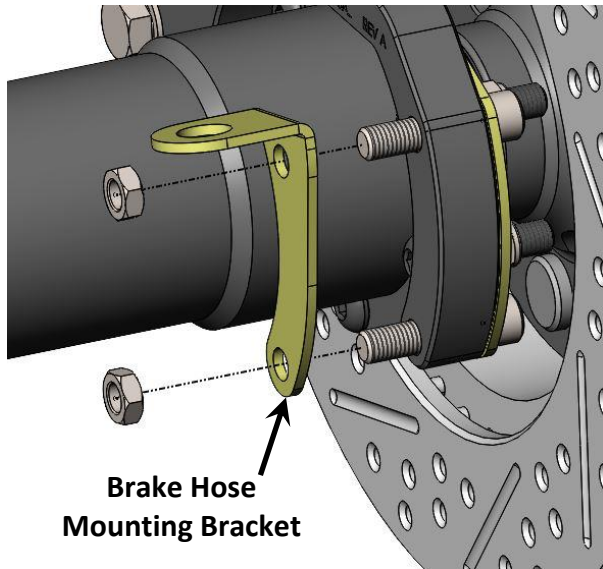
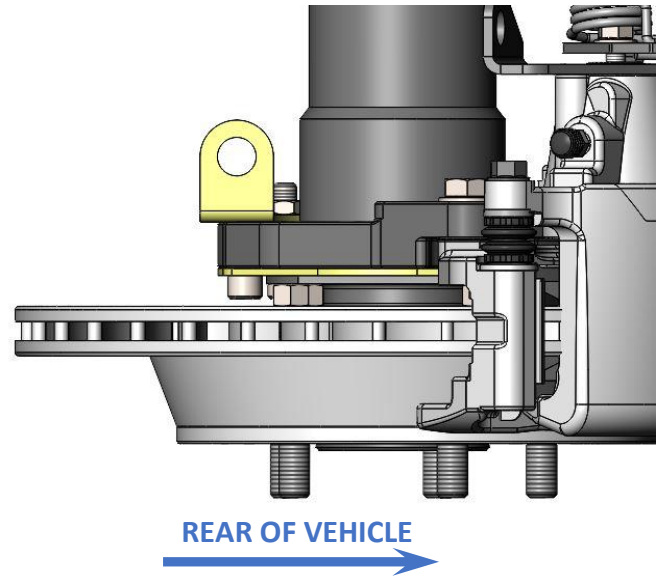

Figure 10a – Brake Hose Mounting Bracket Installation
Figure 10b – TOP VIEW Brake Hose Mounting Bracket Installed
13. With the caliper installed, now install the Brake Hose Mounting Brackets in preparation for the flexible brake hose installation. These brackets are left and right specific and are designed so the tab faces inward to the vehicle. Place the appropriate side Brake Hose Mounting Brackets over the 3/8"-24 x 1.500" Socket Head Cap Screws that are protruding out the back of the Aluminum Caliper Mounting Bracket. Secure the bracket using 2 of the provided 3/8"-24 Jam Nuts. **Note: A small drop of medium strength Loctite is recommended before threading on the nuts but is not necessary.** Torque the nuts to 35 lb/ft. See Figure 10a and Figure 10b on the next page for reference.